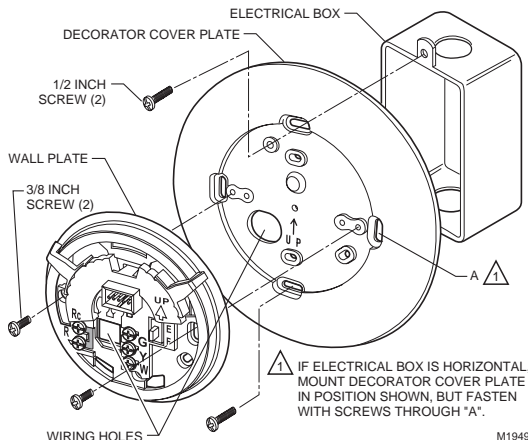

Fig. 2. Mount decorator cover plate (required) and wallplate onto electrical box (heating-cooling wallplate shown).
- ❑ To mount onto an electrical box, see Fig. 2.